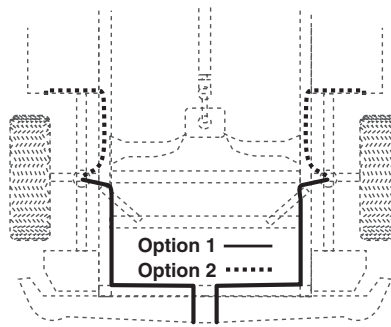

fig. 15
6. Route the air line along the frame to the air fitting on the air spring (fig. 15). Keep AT LEAST 6" of clearance between the air line and heat sources, such as the exhaust pipes, muffler, or catalytic converter. Avoid sharp bends and edges. Use the plastic tie straps to secure the air line to fixed, non-moving points along the chassis. Be sure that the tie straps are tight, but do not pinch the air line. Leave at least 2" of slack to allow for any movement that might pull on the air line.